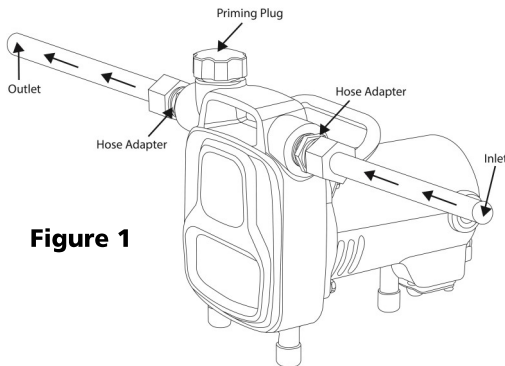

Figure 1
1. The inlet and discharge ports are 3/4" Female NPT. Standard water pipe can be threaded into the pump housing. If garden hose is to be used, thread the adapters (included) into the housing. See Figure 1. It is recommended to use thread seal tape or pipe joint compound on the threads to ensure a tight seal. **NOTE:** Standard garden hose may collapse under suction pressure. To reduce the possibility of hose collapse, use a reinforced hose on the suction line such as PVC, plastic or galvanized pipe.
1. Remove the priming plug on top of the pump housing. See Figure 1.